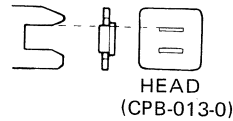

Fig. 6
1. When the cartridge door is opened and a program is set to 1 visually, be sure the head is positioned almost at the same height as the positions of the upper end of the tape guide and the detection outlet (L side) of the head. (Fig. 6)